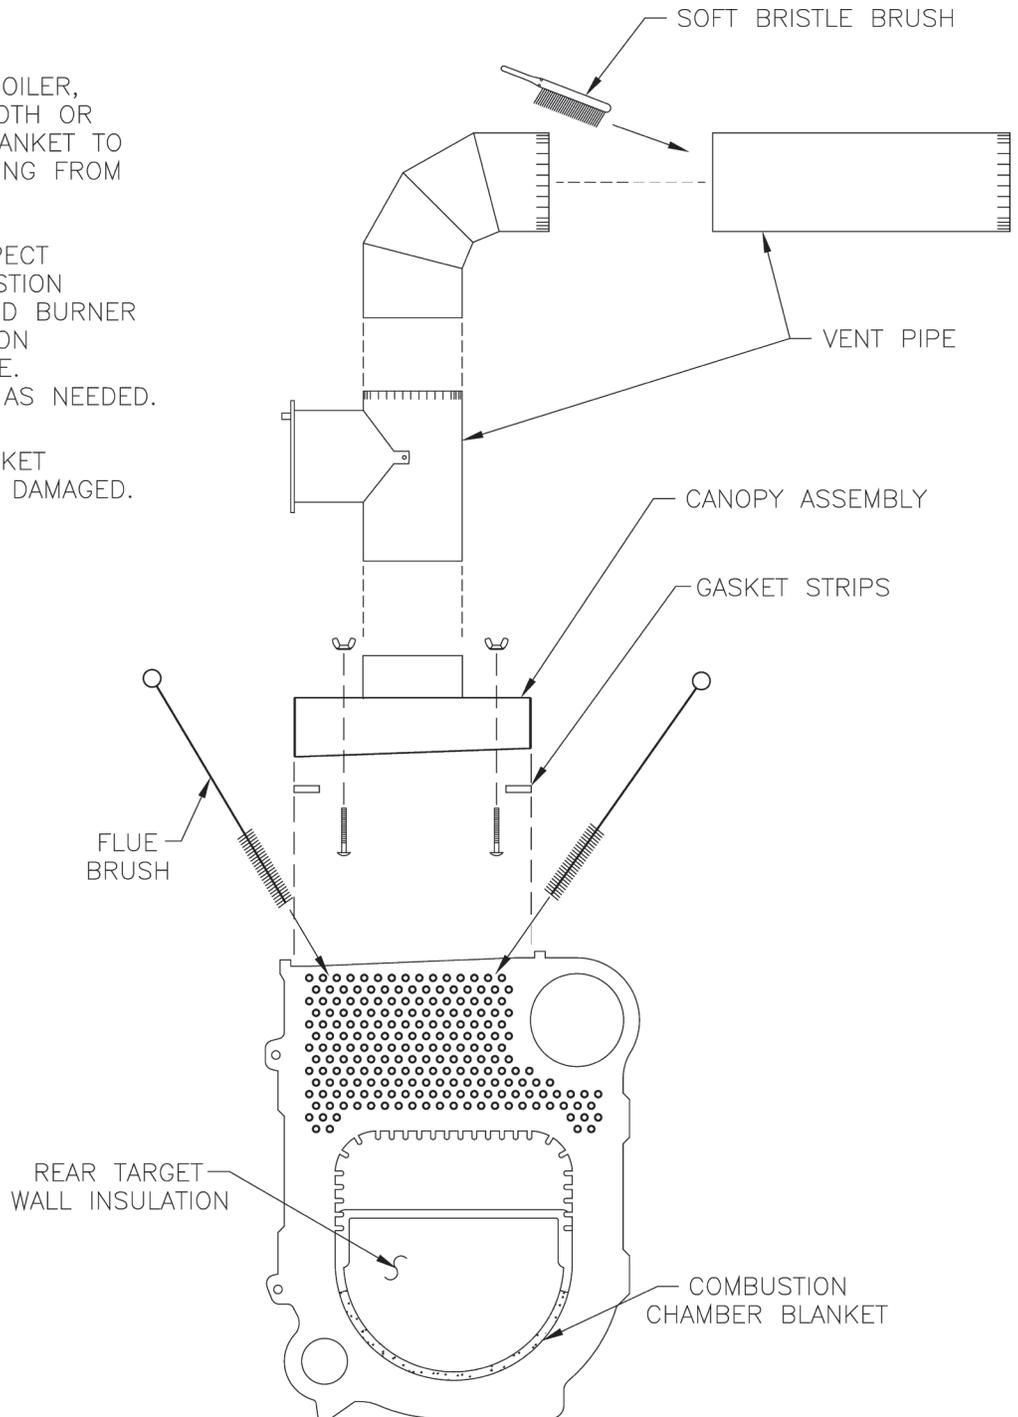

Figure 12-1: Cleaning of Boiler Flueways
A. **CLEAN THE FLUEWAYS** (See Figure 12-1).